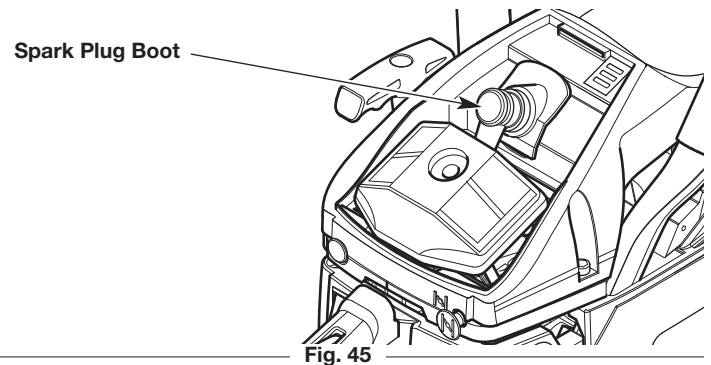

Fig. 45
4. Grasp the spark plug boot firmly and pull it from the spark plug (Fig. 45).